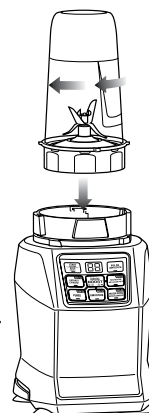

Fig. 2
- 5 Turn the Nutri Ninja cup upside down and place it onto the motor base, aligning the tabs on the cup with the motor base. Rotate the Nutri Ninja cup clockwise until it locks in place, you will hear a click when the lock is engaged. **(Fig. 2)**